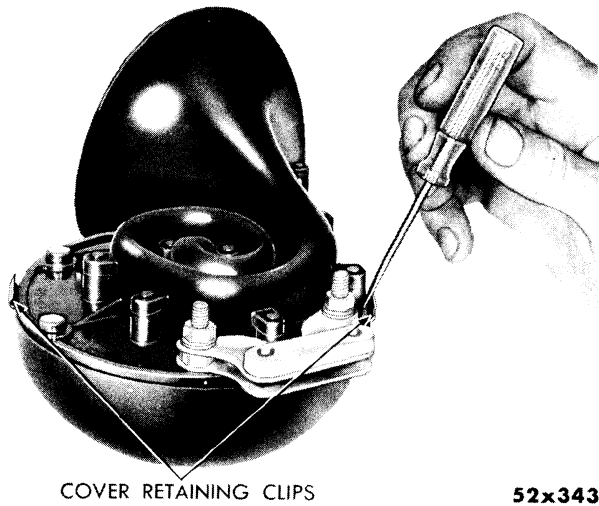
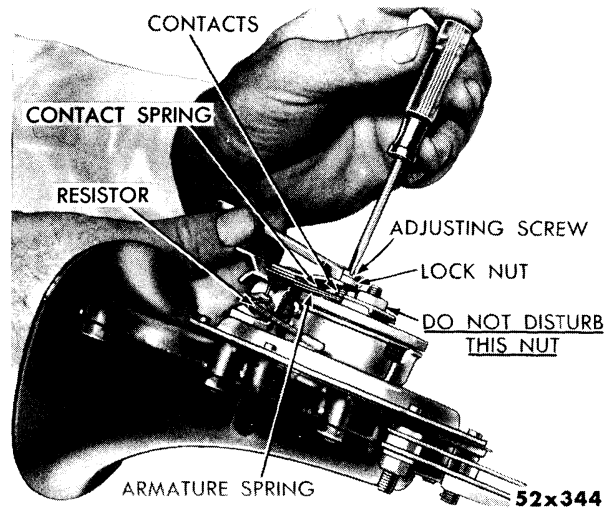

Fig. 41—Removing Horn Cover
Fig. 42—Adjusting Horn
**To Adjust the Horns** remove the horns from car, pry the cover retaining clips away from the body of horn, as shown in Figure 41. Loosen the lock nut and turn the adjusting screw clockwise, as shown in Figure 42, until there is no oscillation between the contact points. Turn the adjusting screw approximately  $\frac{1}{4}$  turn counter-clockwise or until a clear mellow tone is obtained, then tighten locknut. Adjust each horn alike, and test both horns for combined tone.